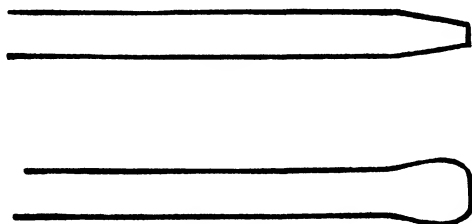

FIG. 29
3. Lay the stock flat on the face of the anvil at right angles to the flattened corners and make a taper, one end of which is the required thickness of the eye, and the other end the thickness of the original stock, and as long as it is wide. Fig. 29.